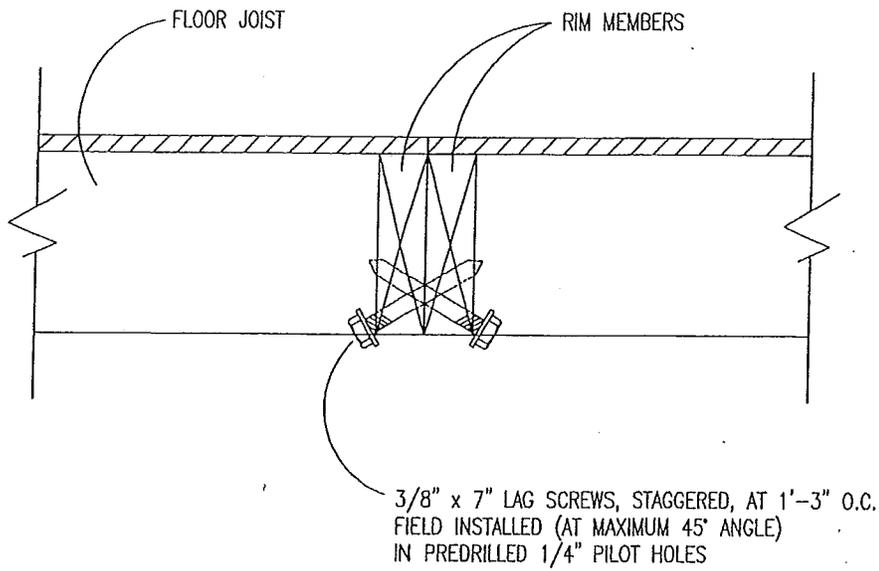

FIGURE 5.1
1. TIE TAG UNIT TO MAIN UNIT AT FLOOR USING 3/8"x7" LAG SCREWS STAGGERED AT 1'-3" O.C. IN PREDRILLED 1/4" PILOT HOLES OR USING MARRIAGE CLIPS (SEE FIGURE 5.1 OR 5.2).
1. TIE TAG UNIT TO MAIN UNIT AT FLOOR USING $\frac{3}{8}$ "x7" LAG SCREWS STAGGERED AT 1'-3" O.C. IN PREDRILLED $\frac{1}{4}$ " PILOT HOLES OR USING MARRIAGE CLIPS (SEE FIGURE 5.1 OR 5.2).